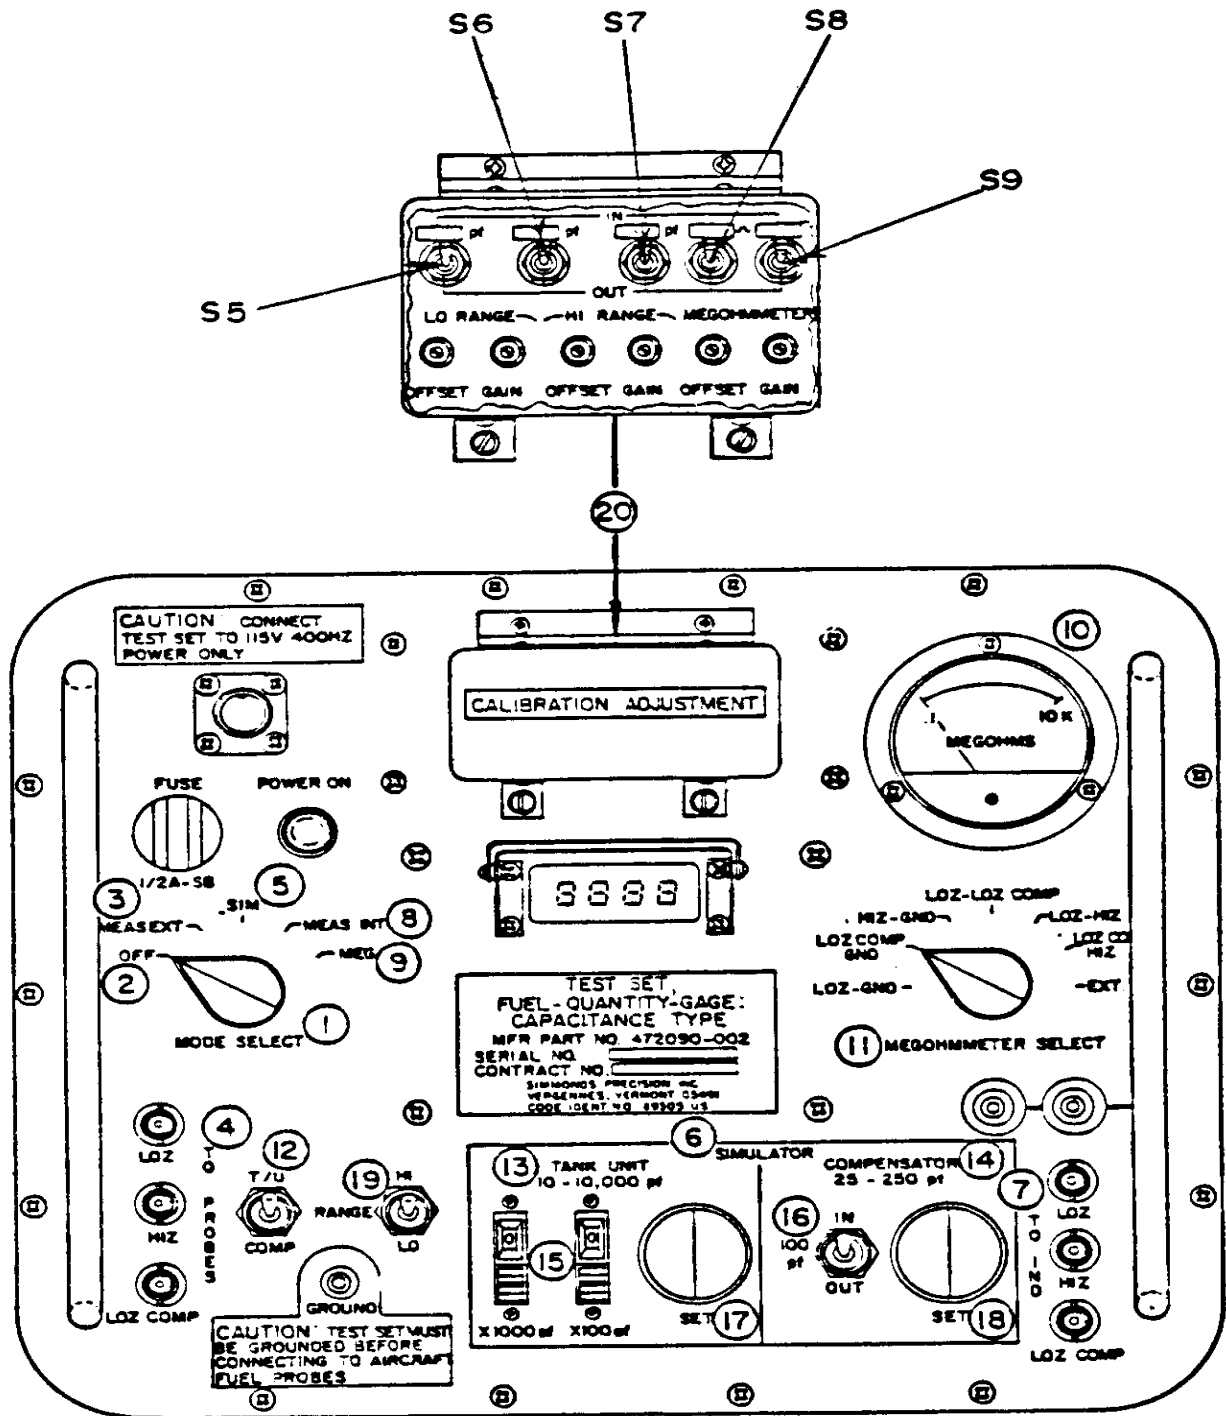

Figure 1. Simmons Precision, Inc. Model 472090-002, controls and adjustments locations.
- (1) Set switches as listed in (a) and b below:
- (2) Open the **CALIBRATION ADJUSTMENT** cover (fig. 1) and set all switches to **OUT** position.
- (3) Set S5 (left most toggle switch, fig.1) to the **IN** position.
- (4) If digital display does not indicate value stamped above S5 (fig.1), perform **b** (1) below.
- (5) Set switches as listed in (a) through (c) below (fig. 1).
- (b) S6 to **IN** position. If digital display does not indicate value stamped above S6 perform **b** (2) below.
- (6) Repeat (3) through (5) (c) until both display values are equal to value stamped above each switch and no further adjustments are required.
- (7) Set switches as listed in (a) through (g) below (fig 1):
- (b) S6 to **IN** position. If display does not indicate value stamped above S6, perform **b** (3) below.
- (c) S6 to **OUT** position and S7 to **IN** position. If display does not indicate value stamped above S7 , perform **b** (4) below.
- (f) S8 to **IN** position. If **MEGOHMS** meter does not read value stamped above S8 , perform **b** (5) below.
- (g) S8 to **OUT** and S9 (farthest right toggle switch fig.1) to **IN** positions.
- (8) If **MEGOHMS** meter does not read value stamped above S9 (fig 1), perform **b** (6) below.
- (9) Set S9 switch (fig.1) to **OUT** position.
- (1) Adjust **LO RANGE OFFSET** trimmer screw (fig. 1) until display reads same as value stamped above S5 switch (fig.1) (R).
- (2) Adjust **LO RANGE GAIN** trimmer screw until display reads same as value stamped above S6 switch (fig.1) (R).
- (3) Adjust **HI RANGE OFFSET** trimmer screw until display reads same as value stamped above S6 switch (fig.1) (R).
(4) Adjust **HI RANGE GAIN** trimmer screw until display reads same as value stamped above S7 switch (fig.1). If necessary repeat (3) above until no further adjustments are required (R).
(5) Adjust **MEGOHMMETER OFFSET** trimmer screw until **MEGOHMS** meter reads same value as stamped above S8 switch (fig.1) (R).
(6) Adjust **MEGOHMMETER GAIN** trimmer screw until **MEGOHMS** meter reads same value as stamped above S9 switch (fig.1). If necessary repeat (5) above until no further adjustments are required (R).
- (1) Set **MODE SELECT** switch to **MEAS EXT** position.
- (2) Set **RANGE** switch to **LO** position.
- (3) Connect shorting plug (p/o TI) to **TO PROBES LOZ COMP** (fig 1).
- (4) Connect variable capacitor to TI, G to **TO PROBES LOZ** and 115 to **TO PROBES MIZ**.
- (5) Adjust variable capacitor to 40 pF. TI display will indicate between 39.8 and 40.2 pF.
- (6) Repeat technique of (5) above for settings and indications listed in table 4.
(1) Set switches as listed in (a) through (c) below:
- (c) S8 switch (fig. 1) to **IN**.
(2) If **MEGOHMS** meter does not indicate value stamped above S8 switch (fig. 1), perform **b(1)** below.
(3) Set S8 switch (fig. 1) to **OUT** position and S9 switch (fig. 1) to **IN**.